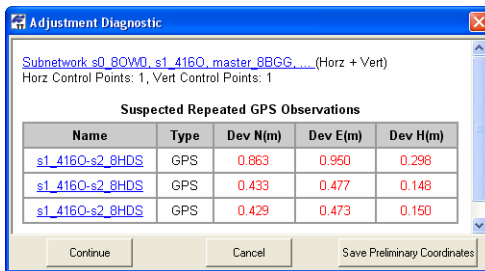

Figure 6-15. Messages After Analysis of the Repeated GPS Observation
- A failed test is where the difference is more than the values set in the *Job Configuration* dialog box. The network adjustment process will be interrupted and the *Adjustment Diagnostic* dialog box will display (Figure 6-15).